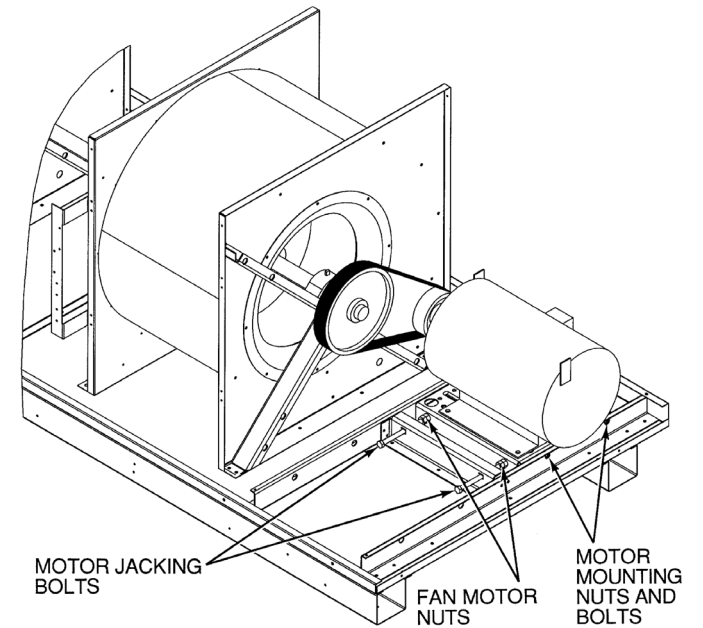

Fig. 11 — Belt Tension Adjustment
2. Loosen motor mounting nuts and bolts. See Fig. 11 for nut and bolt locations and installation example.
2. Loosen motor mounting nuts and bolts. Refer to Fig. 11 for nut/bolt locations and installation example.